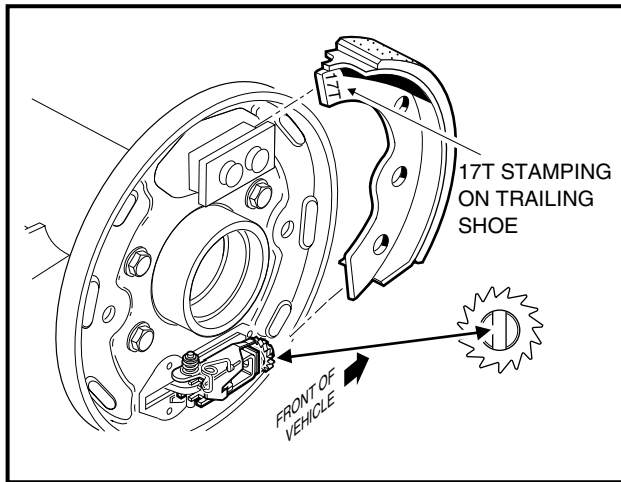

Figure 6-12 Trailing Shoe
1. Turn the adjusting wheel screw so the shoe slot is vertical, then position the trailing shoe in the slots in the shoe mounting block and adjuster assembly (Figure 6-12, Page 6-6). See following NOTE.
NOTE: The trailing shoe has 17T stamped into the tip of the shoe flange (Figure 6-12, Page 6-6). The leading shoe is stamped 17L. When installing the shoes, the stampings on both shoes should be oriented to the top of the brake assembly. When installing the shoes on the passenger side of the vehicle, the side of the trailing shoe flange marked 17T should be facing out and be visible. On the driver side, the 17L on the leading shoe should be facing out and be visible.